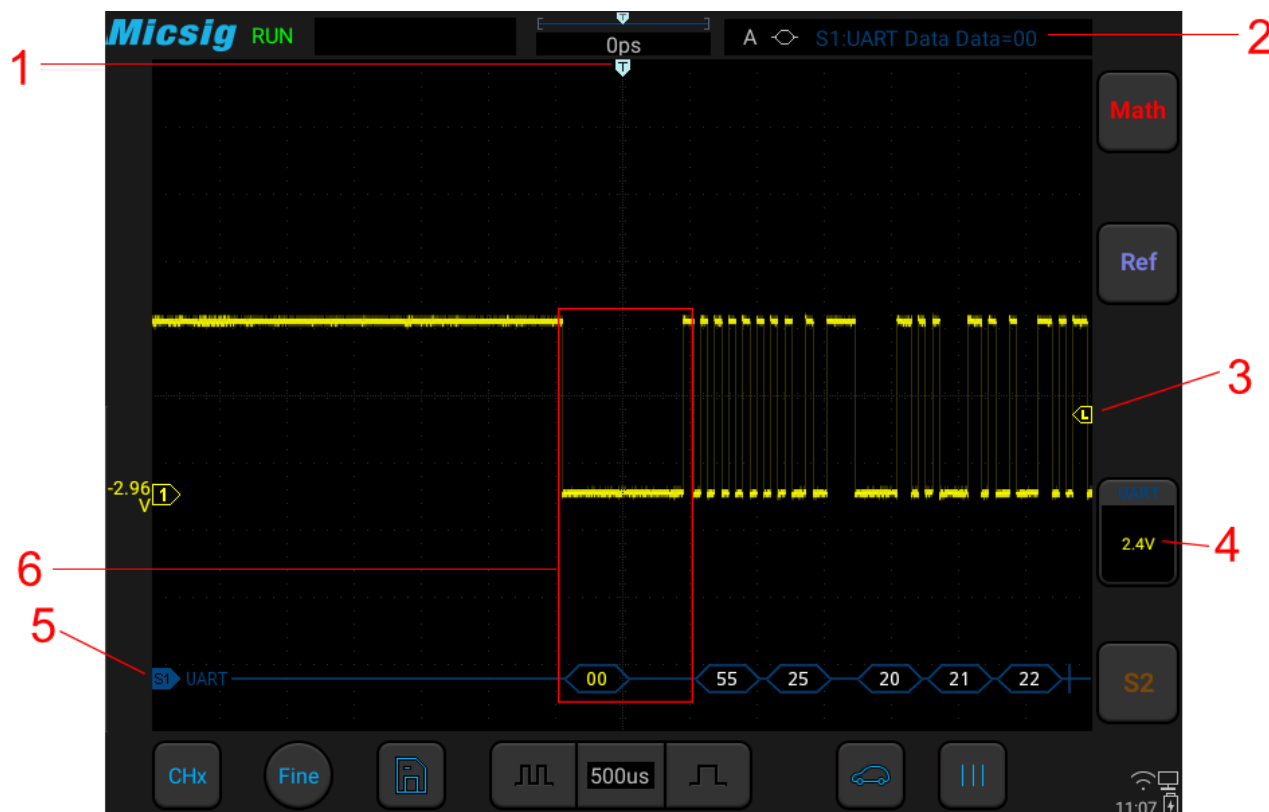

Figure 13-8 UART Graphic Interface
- (1) Tap S1 to open the decode channel, and click S1 again to open the bus configuration menu;
- (2) Select the bus type as “UART”, click “Ch1”, “Idle High”, “Parity None”, “8bit”, “19.20kb/s”, display “hexadecimal”, then close menu;
- (3) Open the trigger mode setting menu, click “Data”, enter 55 manually, and press “enter” to confirm;
- (4) Adjusting the threshold level according to the amplitude level of signal may make the signal to be stably triggered. The UART trigger graphic interface is shown in Figure 13-8: